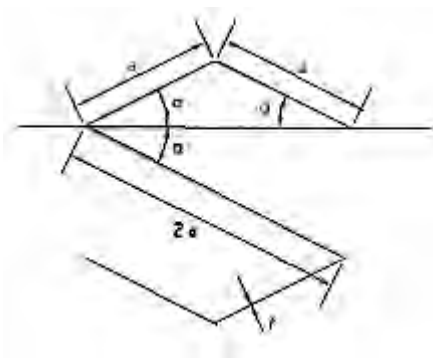

Figure 8:
8. A uniform beam has the point-symmetric cross-section shown in figure 8. Making the usual assumptions for a thin-walled cross-section, show that the torsion-bending constant Γ calculated about the shear centre S is $\Gamma = \frac{8}{3}a^5t \sin^2 2\alpha$. The thickness t is constant throughout. [16]